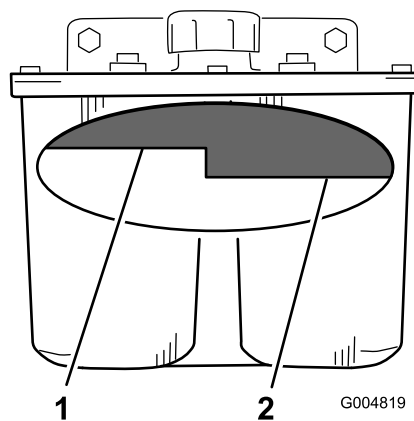

Figure 69
2. Clean the area around filler neck of hydraulic tank (Figure 69).
3. Remove the cap from the filler neck. Look inside to check if there is fluid in the reservoir (Figure 69).
Note: The fluid level should be to the top of the hot level of the baffle, when the fluid is hot (Figure 69).